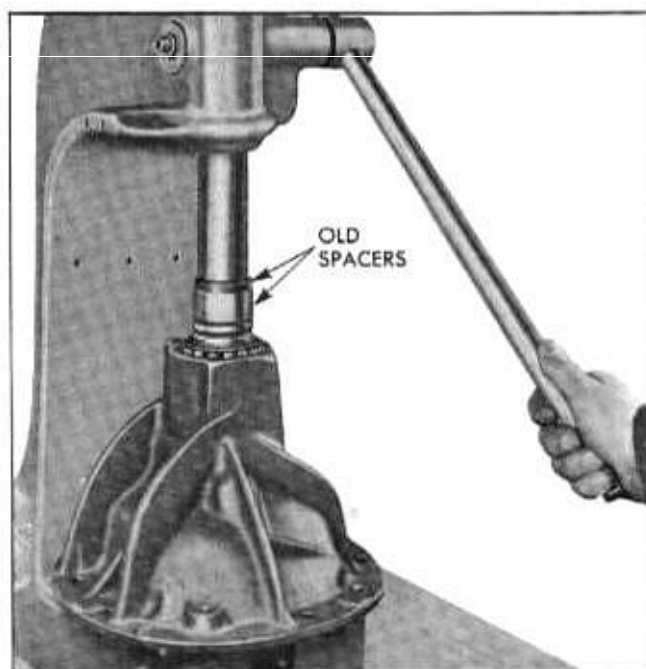

Fig. 4-36 Installing Pinion Front Bearing
22. Oil pinion front bearing and roller assembly with hypoid lubricant and install on pinion stem. If bearing is tight on pinion, press bearing on with arbor press using an old bearing spacer placed on bearing inner race (Fig. 4-36). **CAUTION:** Do not take up all end play of pinion or bearing spacer will not be effective.